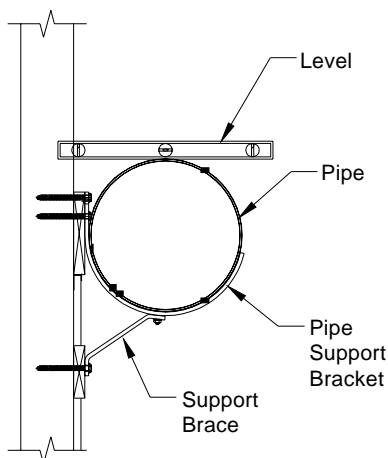

Figure 6
- 11) After PVC cement has fully dried, use a level to find the top, center of the pipe at end of each pipe section and mark it with a permanent black felt marker (marks should not be more than 12' O.C.). Then use a chalk line or a piece of the aluminum pad retainer as a straight edge to draw a line between the marks. **See Figure 6.** Measure 7 1/4" down from the original marks and draw another line. **See Figure 7.**